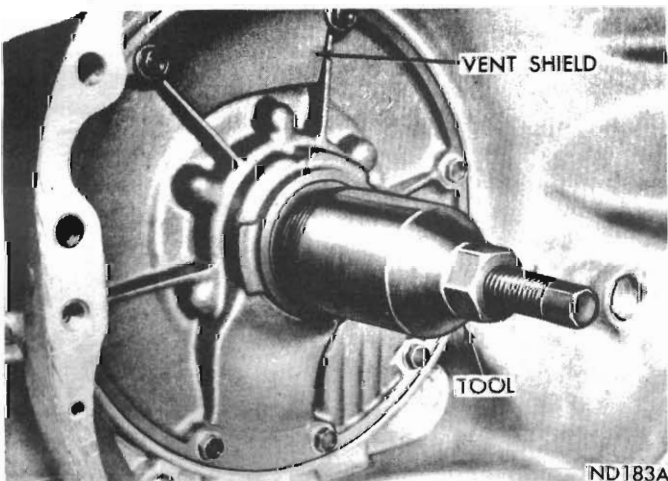

Fig. 46 - Removing pump oil seal
The pump oil seal can be replaced without removing pump and reaction shaft support assembly from the transmission case. *The vent shield shown in (Figs. 46 and 47) is not used or required on the A-904 pumps.*
(1) *A-904*: Screw seal remover Tool E21C35G into seal (Fig. 46), then tighten screw portion of tool to withdraw the seal.